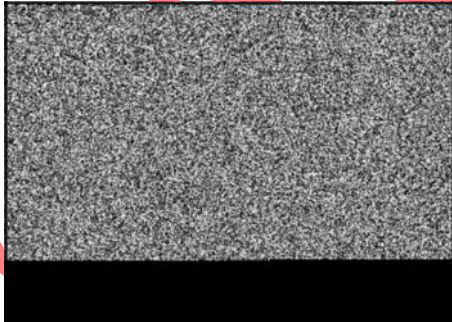

Figure 43
1. Loosen jam nut (**A**, Figure 43) at base of rocker arm stud. Then, using a feeler gauge (**B**), turn rocker arm screw (**C**) to obtain the correct clearance as listed in Section 12 - Engine Specifications.